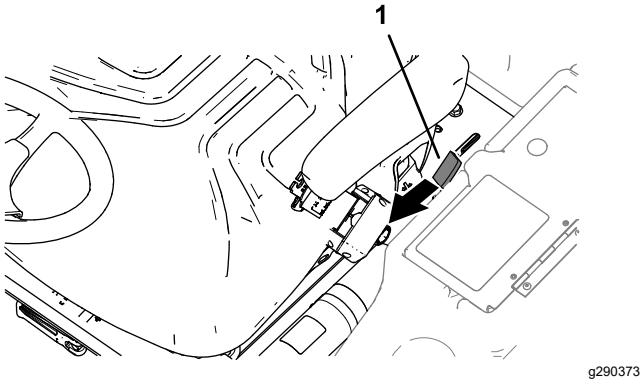

Figure 43
1. Move the platform-latch handle (Figure 43) toward the front of the machine until the latch hooks clear the locking bar.